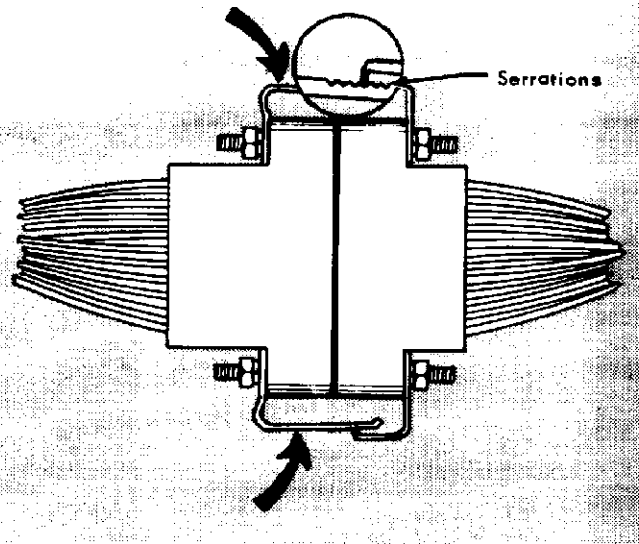

Fig. 6
- (a) Apply pressure on Springs as shown in Figure 6.